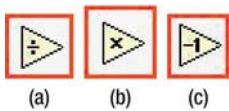

Figure 10-10. (a) The Divide Function, (b) the Multiply Function, and (c) the Decrement Function
- *Divide*—This function is used to divide numerical values (see Figure 10-10(a)).
- *Multiply*—This function is used to multiply numerical values (see Figure 10-10(b)).
- *Decrement*—This function is used to subtract by one or decrement by one (see Figure 10-10(c)).